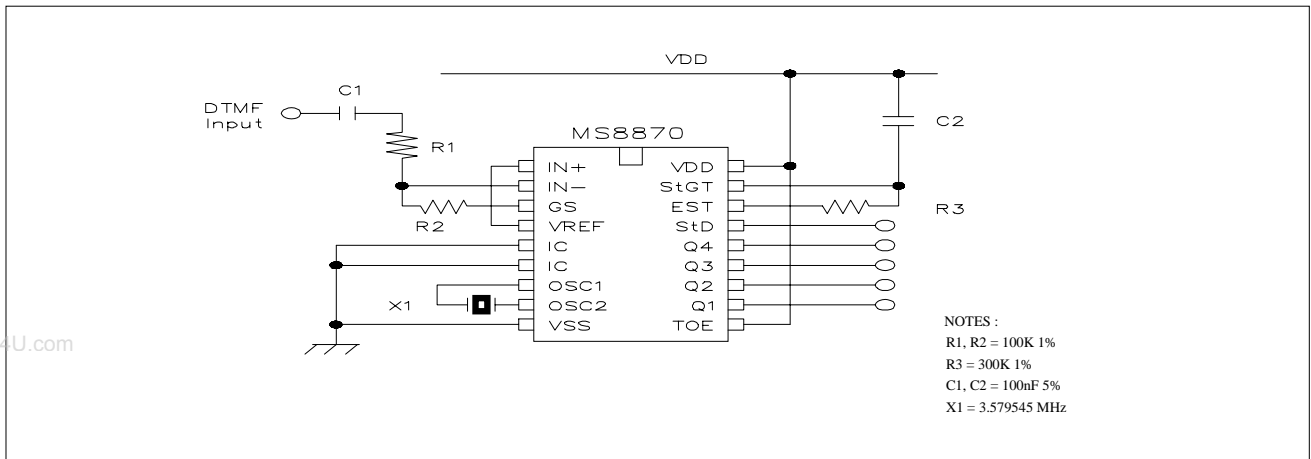
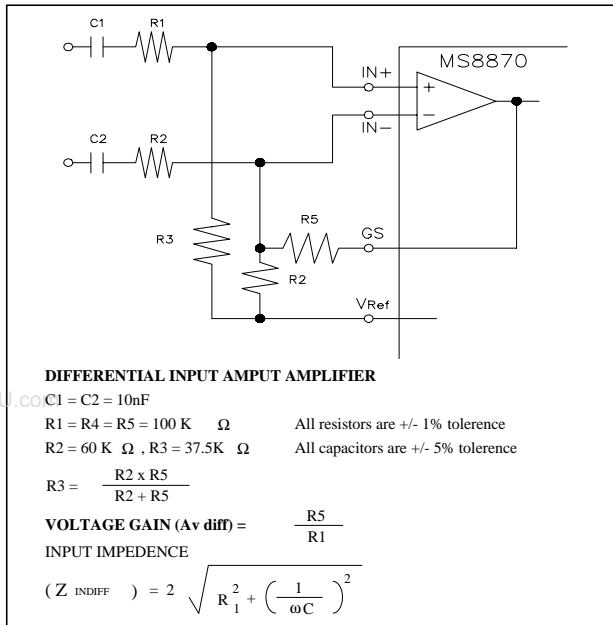

Figure 2. Single Ended Input Configuration
Figure 8. Differential Input Configuration
* All voltages referenced to Vss unless otherwise noted. Vcc = 5.0V, Vss = 0V, TA = 25°C, Fc = 3.579545 MHz, using test circuit shown in Figure 2
The input arrangement of the MS8870 provides a differential-input operational amplifier as well as a bias source (V_{Ref}) which is used to bias the inputs at mid-rail. Provision is made for connection of a feedback resistor to the op-amp output (GS) for adjustment of gain. In a single-ended configuration, the input pins are connected as shown in Fig. 2 with the op-amp connected for unity gain and V_{Ref} biasing the input at $\frac{1}{2}V_{DD}$. Fig. 8 shows the differential configuration, which permits the adjustment of gain with the feedback resistor R_5 .